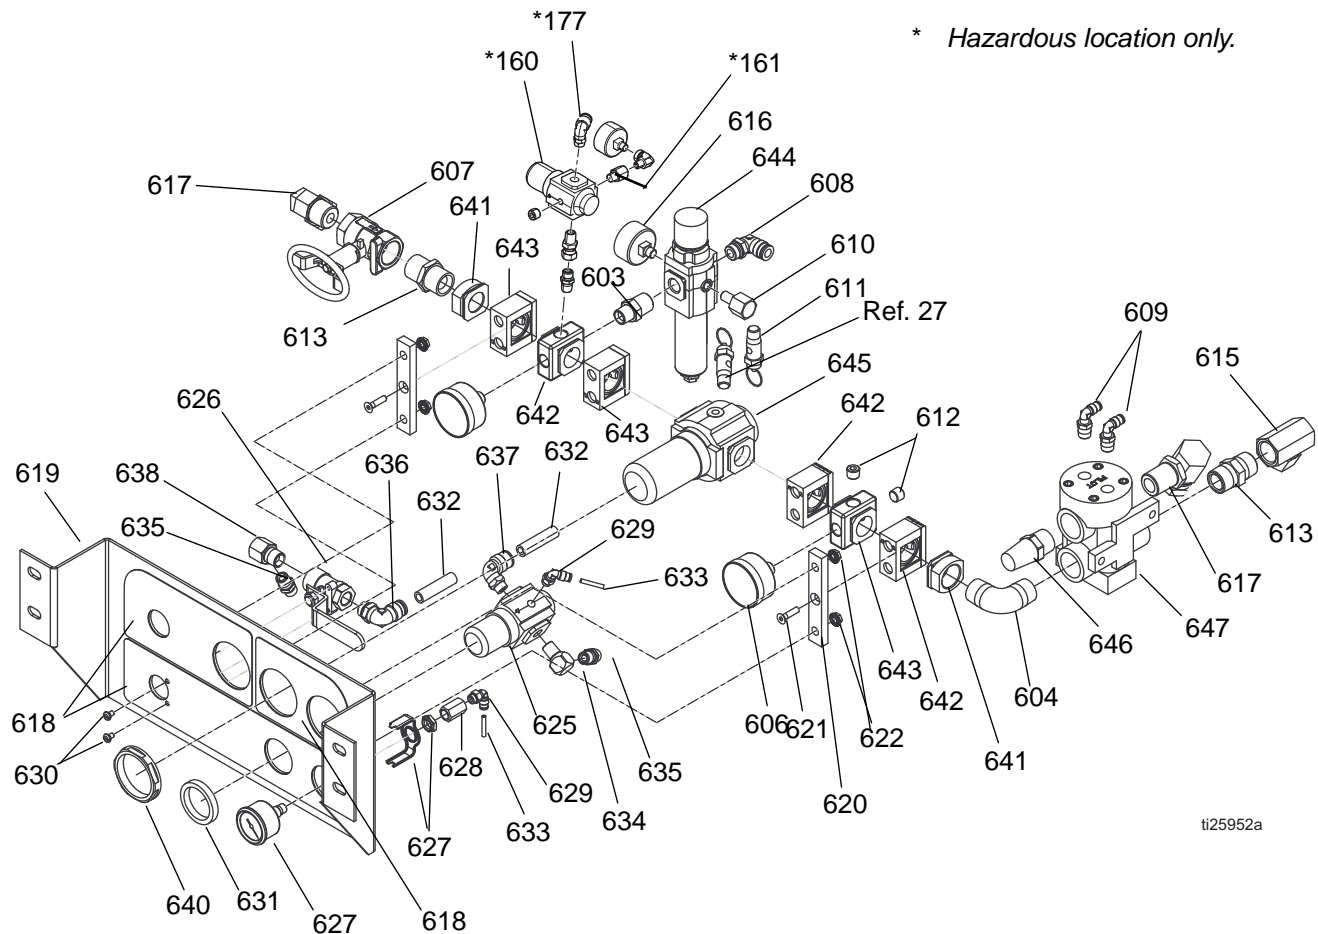

FIG. 5: Air Control Assembly (18)
3. Remove four nuts (17) from front of air controls (18). See FIG. 5, page 22.
4. Pull out assembly (18).
1. **Remove Air Control Assembly (18).**
2. Remove two nuts (630) from front of air control bracket (619). See FIG. 5, page 22.
3. Disconnect air line (632) running to ball valve assembly (626).
2. Remove regulator nut (631), and disconnect air lines (632, 633) running to regulator (625). See FIG. 5 on page 22.
2. Remove regulator nut and disconnect system air line. See FIG. 5, page 22.
3. Remove screws from quick clamps and open clamps (642) at hinge.
4. Remove regulator assembly (645) and replace with new.